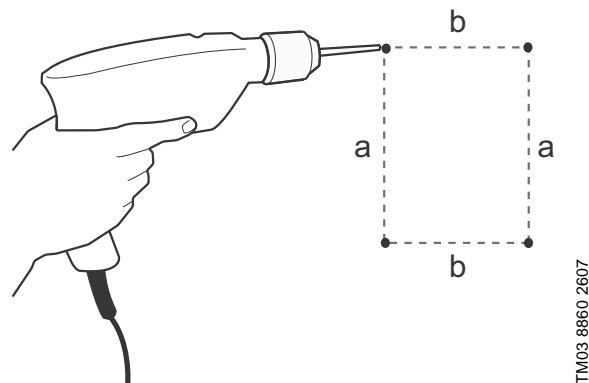

Fig. 30 Drilling holes for mounting
1. Mark and drill holes. See fig. 30; also see section *Main dimensions and weight* on page 49.